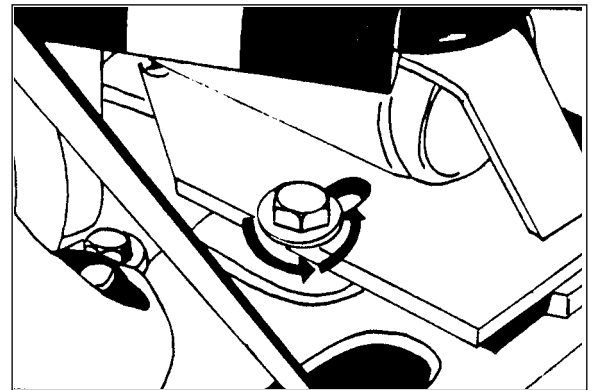

Figure 2
5. Loosen the motor bolt. Using the $\frac{3}{4}$ " wrench, turn the motor bolt counterclockwise. See figure 2.